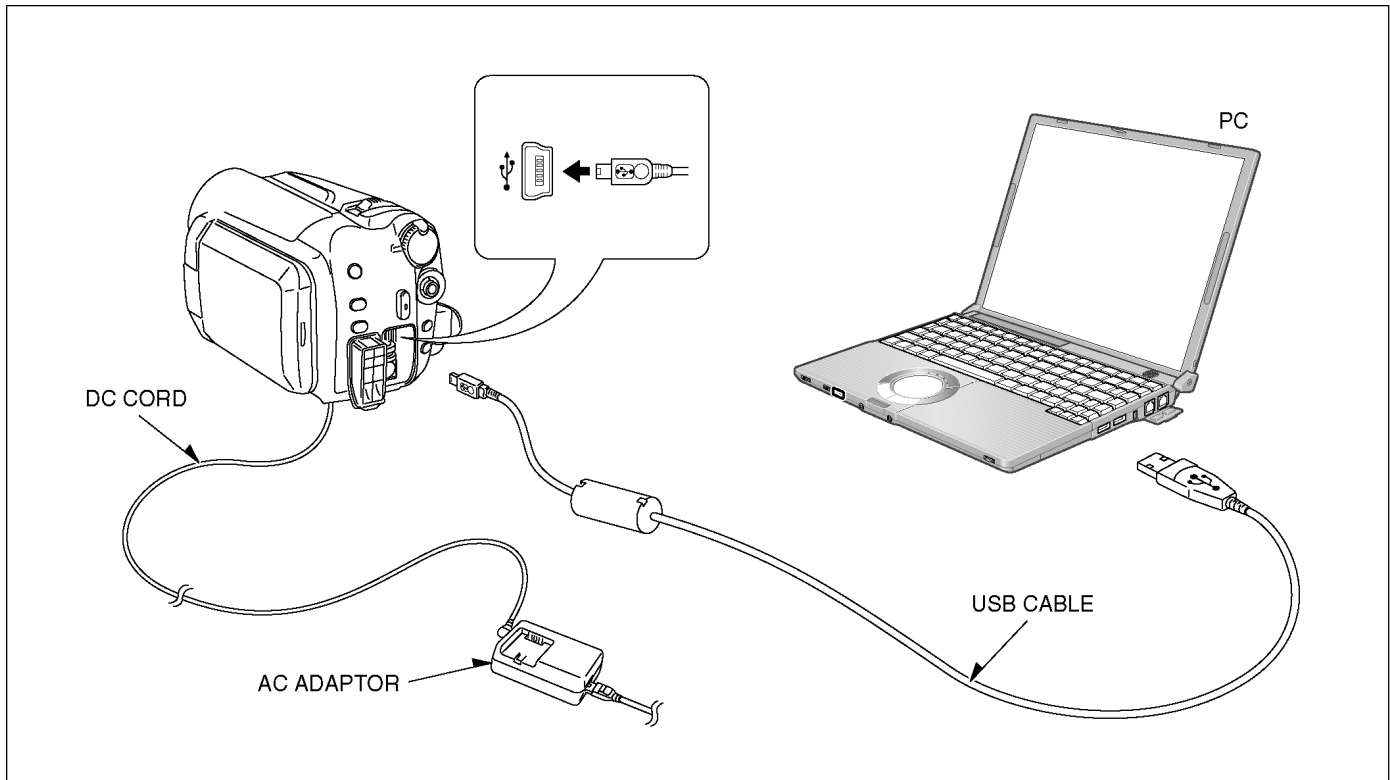

Fig. E1
c. Connect the PC and SD Card/Hard Disk Video Camera as shown in Fig. E1 and E2.